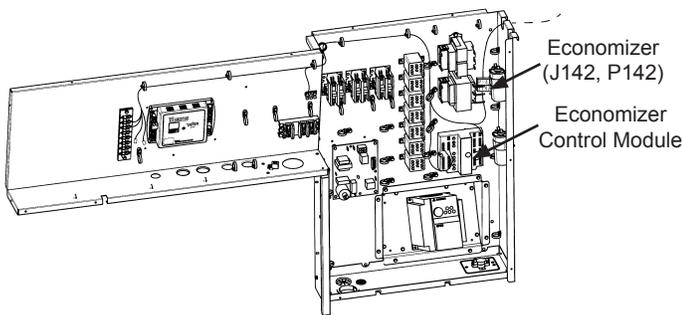

Figure 7A - HVAC Control Box
1. The economizer control module is located next to the actuator for shipping. Relocate the module to the unit control box, see Figure 7A.